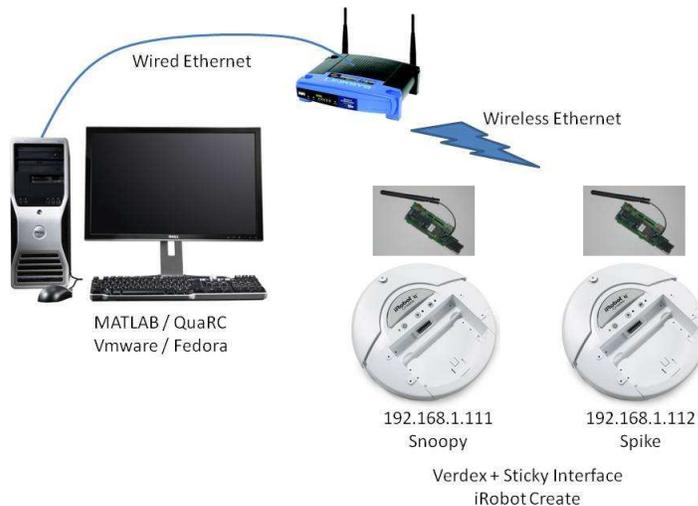

Figure 1: Complete Framework
Figure 1 shows the complete implementation framework that will be described in detailed in this document. The system consists of a host personal computer (PC) installed with MATLAB/Simulink and QuaRC, which can interact wirelessly with multiple iRobot Create through a very small form factor embedded processor called gumstix. While this guide attempts to illustrate the steps as detailed as possible, it is advised to fully understand the procedure before getting hands dirty since some of the steps might be outdated pretty quickly in the near future.